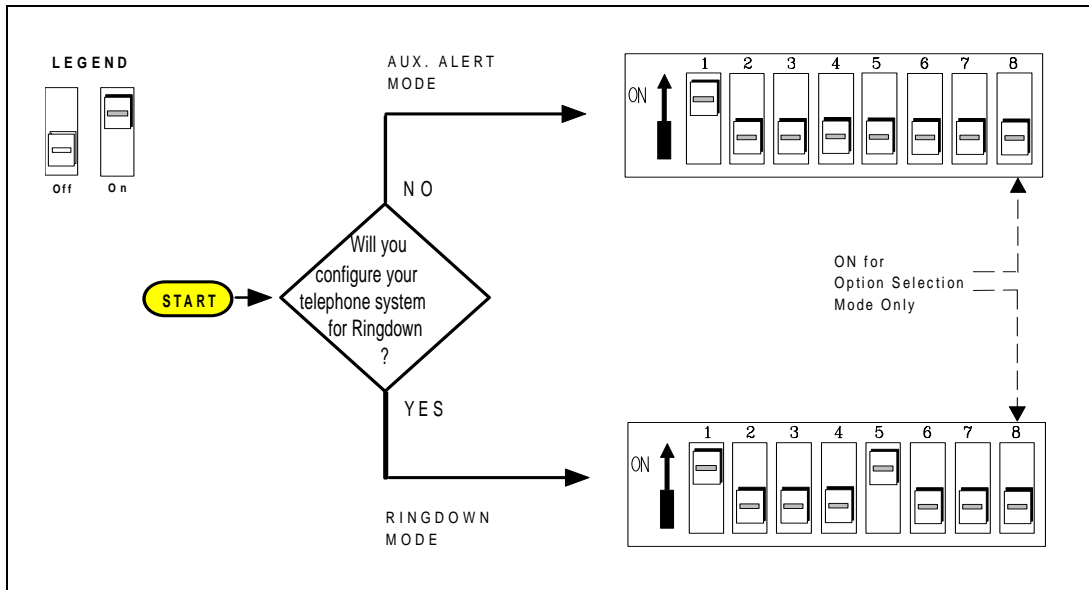

Figure 5-1. DIP Switch Configuration for Telephone System with Dedicated Station Access, Station Mode
To customize the Door Phone Controller to your specific installation and option requirements, you must properly set the 8-position DIP switch located on the Door Phone Controller front panel (see Figure 5-1).
*Note: Use the flow chart in Figure 5-1 to properly set the DIP switch.*
When using the Door Phone Controller with a telephone system which has an available dedicated station port, set the DIP switch as shown in Figure 5-1. Prior to setting this DIP switch, you must know if the telephone system is configured for auxiliary alert mode or ringdown mode (see page 1-5 for explanation of ringdown and auxiliary modes).
To customize the Door Phone Controller for this type of installation, you must properly configure the 8-position DIP switch located on the Door Phone Controller front panel (see Figure 1-1). Use the Flow Chart in Figure 5-1 to properly set the DIP switch.